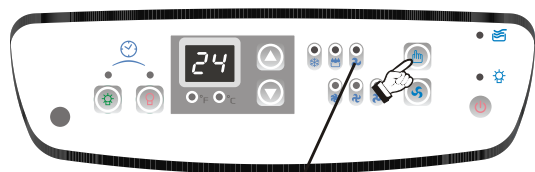

Fig. 19
- 2) Select the appropriate **MODE** under which you want the unit to operate (**Cool-Dry-Fan**) Fig.19.